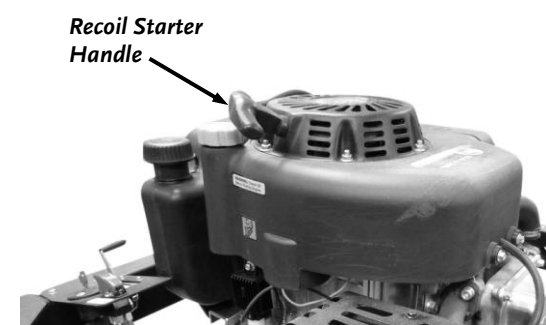

Figure 27
4. Grasp the Recoil Starter Handle and slowly pull until you feel resistance (**Figure 27**). Let the Cord retract a little bit, and then pull the Cord rapidly to start the Engine.